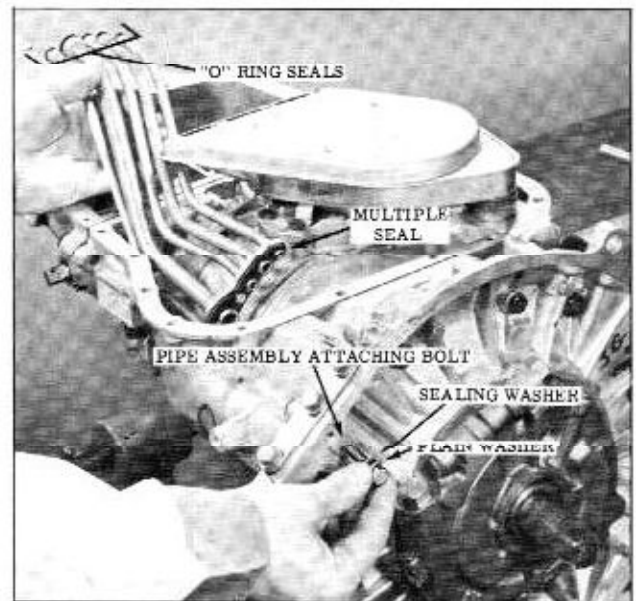

Fig. 3-132 Installing Pipe Assembly
18. Install pipe assembly into case through opening in case. (Fig. 3-132)